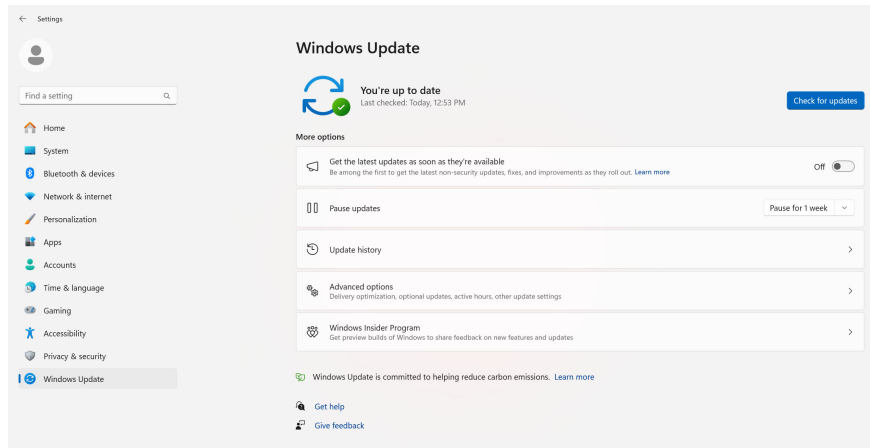

Figure 43: Windows 11 System Update Dialog
1. Navigate to *Settings* -> *Windows Update* -> *Advanced Options* (Fig 43)